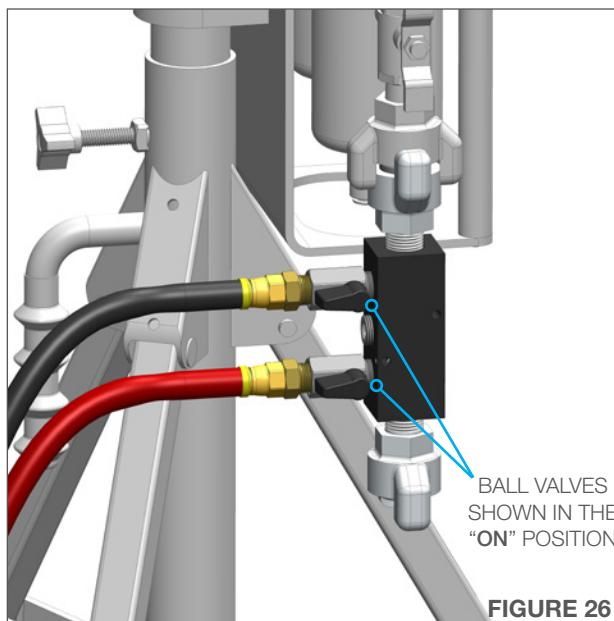

FIGURE 26
3. The manifold assembly has two quarter turn ball valves that control air supply to the upper and lower air knife components. Turn both Ball Valves to the ON position. Ball valves are in the ON position when they are parallel to the hoses. (**Figure 26**)